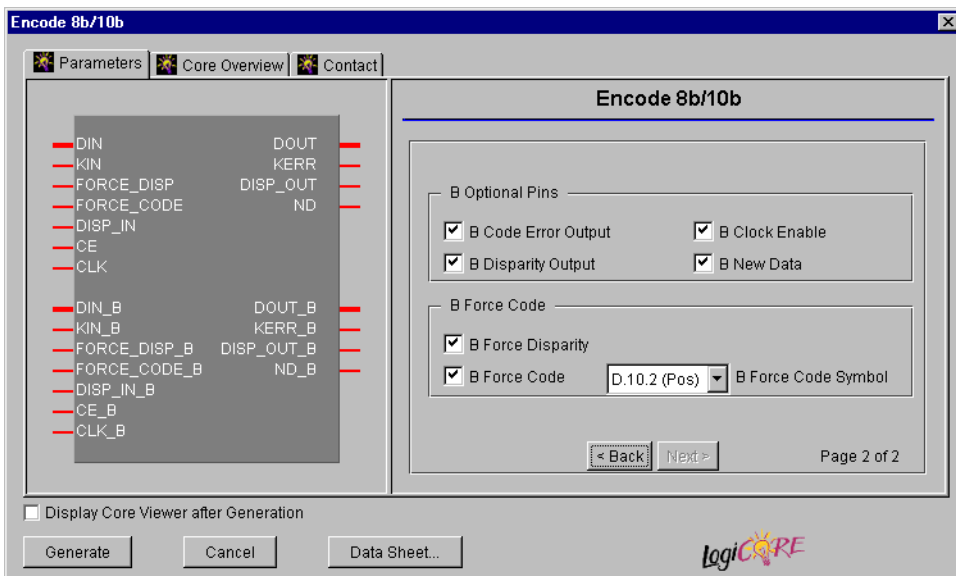

Figure 5: Secondary Encoder Parameterization Window
- If more than one encoder is used to encode larger words into multiple symbols, their disparity inputs and outputs must be chained together. The RUN_DISP output of the first Encoder drives the DISP_IN input of the second Encoder with the final Encoder's RUN_DISP output connected back to the DISP_IN of the first Encoder. See Figure 5 for a schematic of this case.